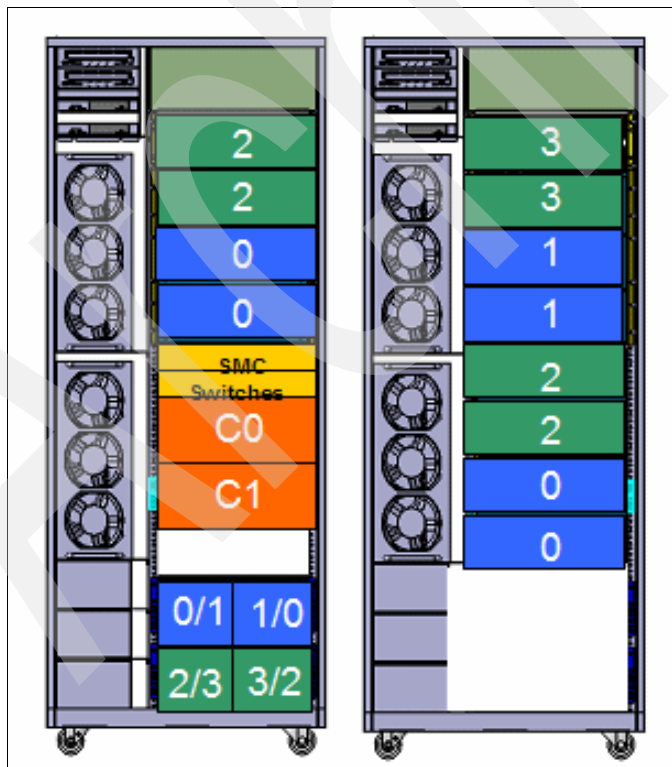

Figure 3-6 DS8100 device adapters
Figure 3-6 illustrates this method.
**Note:** Figure 3-6 shows only front disk enclosures. However, there are actually as many back enclosures, that is up to eight enclosures per base frame and up to 16 enclosures per expansion frame.